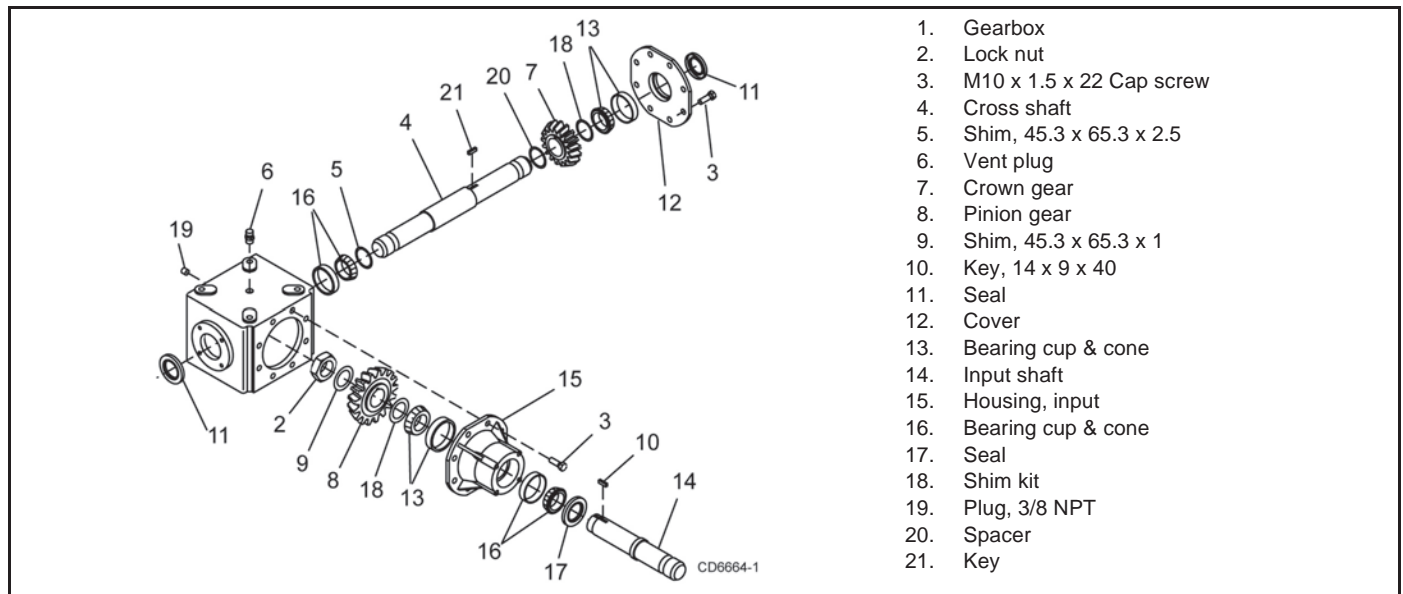

Figure 21. Center Gearbox Assembly
2. Remove vent plug (3) and siphon gear lube from housing through this opening.
3. If the leak occurred at either end of horizontal shaft (spindle gearbox), remove oil cap (24) and/or oil seal (10). For splitter gearbox (Figure 21) use oil seals (11) and (17). Replace with new one (refer to Seal Installation, page 20).
Refer to Figure 21.